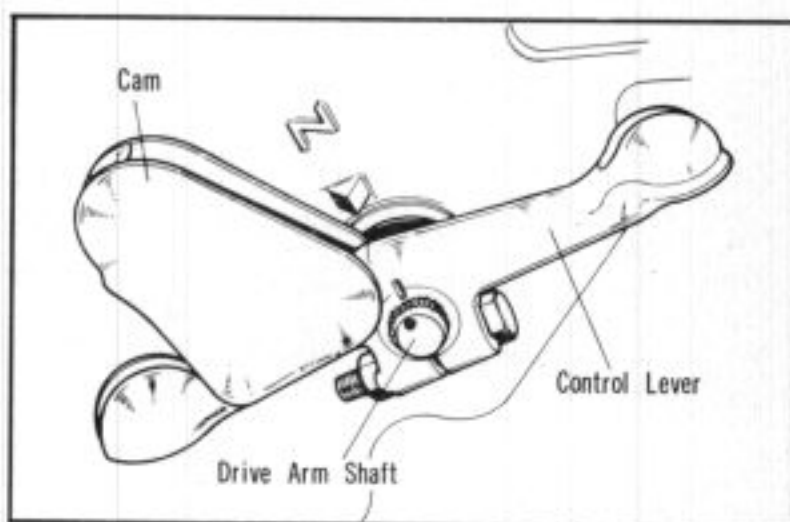

Fig. 7B-274
3. Connect the lower ends of the selector cables A and B to their respective points on the control lever. (Fig. 7B-275)